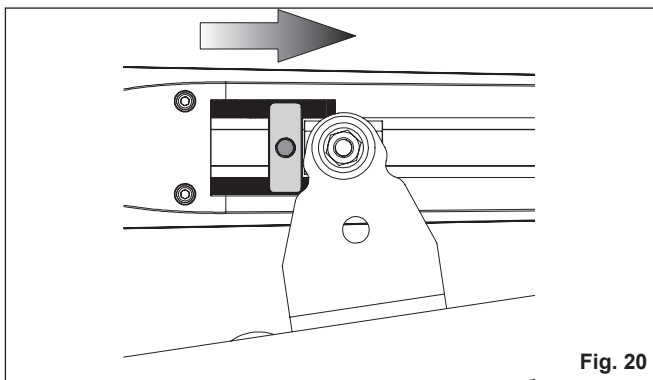

Fig. 20
4. Move the mechanical stop until it is close to the front fitting, as indicated in Figure 20.